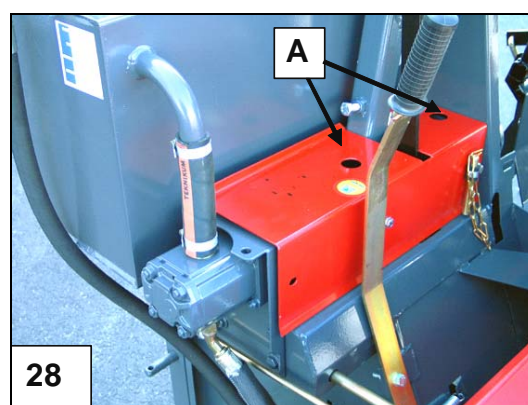

Fig. 28. Lubricating the machine
7.6 Lubricating the machine, Fig 28
- If the machine is left unused for a longer period of time, lubricate the shaft bearings A (Figure 28) with roller-bearing lubricant in accordance with the table at the end of the operating season.